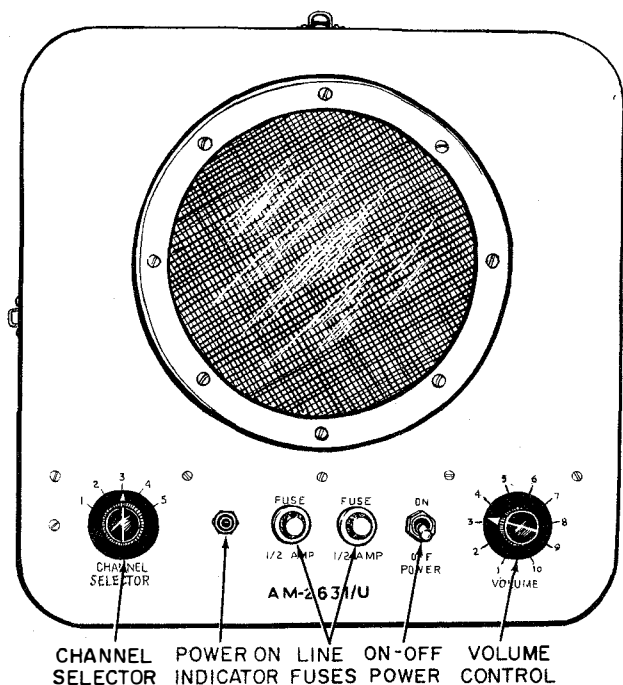

Figure 3-1. Speaker Amplifier
a. DESCRIPTION OF CONTROLS.—Table 3-1 describes the function of the indicators and operating controls. Refer to figure 3-1.
- (1) Energize the speaker amplifier by placing the POWER ON-OFF toggle switch to the ON position.
- (2) Observe the power on indicator lamp.
- (3) Turn the CHANNEL SELECTOR switch to the desired channel.
- (4) Turn the VOLUME control to the desired level.
- (5) Turn the POWER ON-OFF switch to the OFF position.
- (6) To secure the speaker amplifier, disconnect the outside power source.